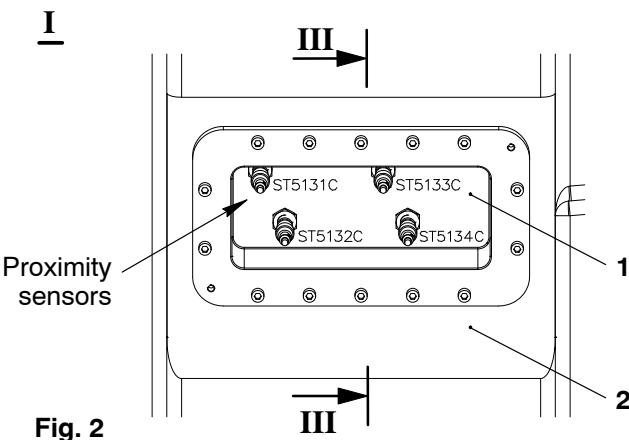
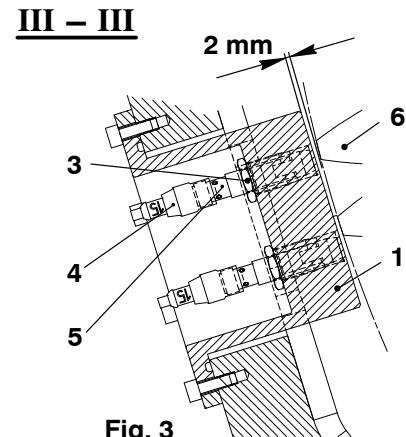

Fig. 2
Fig. 3
The crank angle sensor unit with four proximity sensors (5, Fig. 3) is installed on the drive supply unit at the driving end. There are two crank angle systems (redundant) that monitor the teeth on the intermediate wheel 2. The sensor adapters 3 are fix screwed onto the cover (2, Fig. 2) of the drive column.
- 1) Disconnect the plug with cable (4, Fig. 3) from the proximity sensor 5 and remove the sensor from the sensor adapter 1.